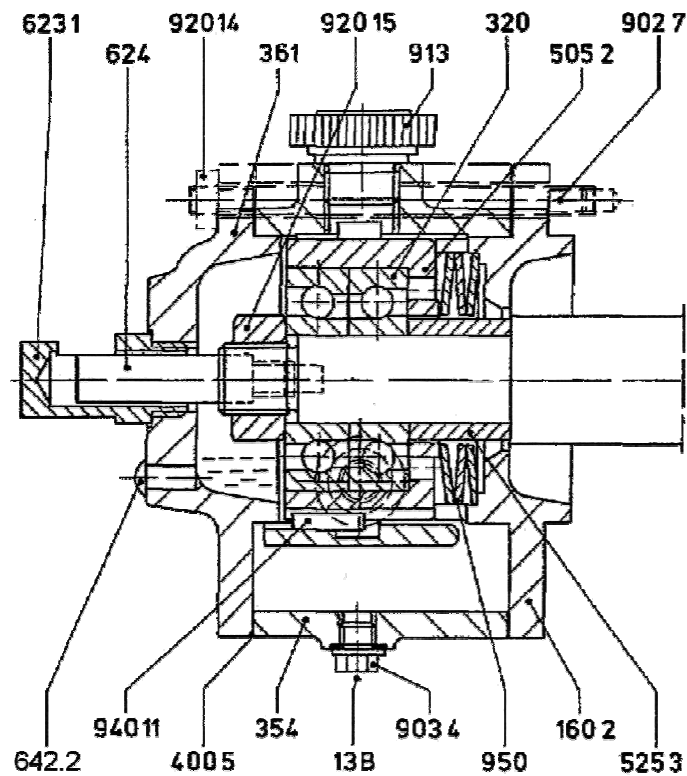

Figure 41A – Lift-off device: anti-friction bearings
5. Mount the upper bearing shell (370), bearing end cover (361) and upper bearing housing (350). Fasten the bearing housing using tapered pins. Bore and ream the holes if necessary.
6. Mount the rotor position indicator (623.1) plus actuating pin (624) on the discharge end.
7. Check the markings on the rotor position indicator with the balance disc (601) in contact with the balance counter disc (602), if necessary make a new marking (see section 9.1.1 – Rotor position indicator).
8. If the pump is supplied with lift-off device in the bearing casing according to figures 41A, 41B, 42 and 43 and follow sequence of items 5 and 6 above. If also a gear pump directly connected to the pump shaft is supplied, consider for assembly, the details indicated in the figure 44.